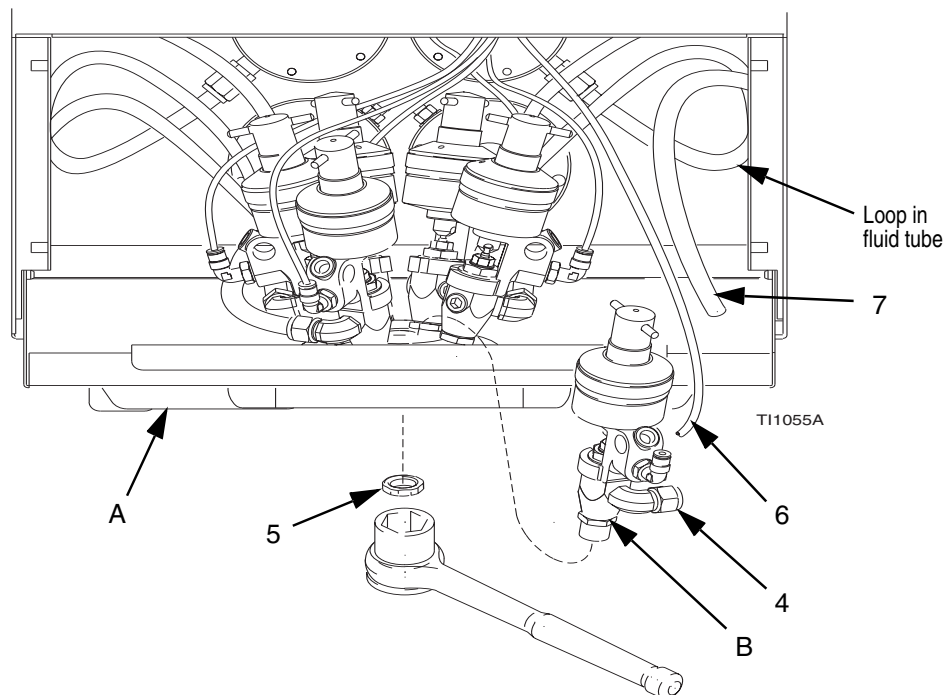

FIG. 2
6. Slide out dispense valve tray (A). Tip down and hook the notch on the pin to hold tray in place. See **FIG. 2**.
7. Install elbow fitting (4) in dispense valve (B) fluid inlet.
8. Install dispense valve (B) in desired port in the tray and secure it with the nut (5), using a 7/8" 6-point socket wrench. Be sure that PTFE-coated side of nut (5) faces the valve.
*Cut tubing (7 and 6) to length needed. Place a loop in the fluid tube (7) as shown in **FIG. 2** to avoid crimping it.*